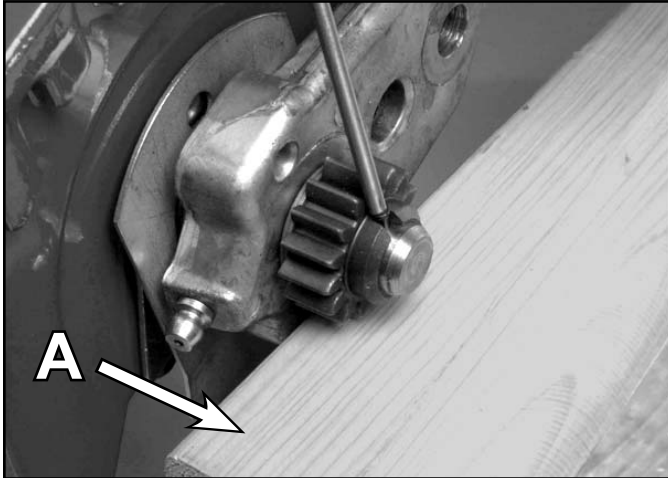

Fig 007
6. Place a block of wood under the wheel pinion for support and drive the roll pin out of the axle (Fig. 007). Repeat the process on the other side.